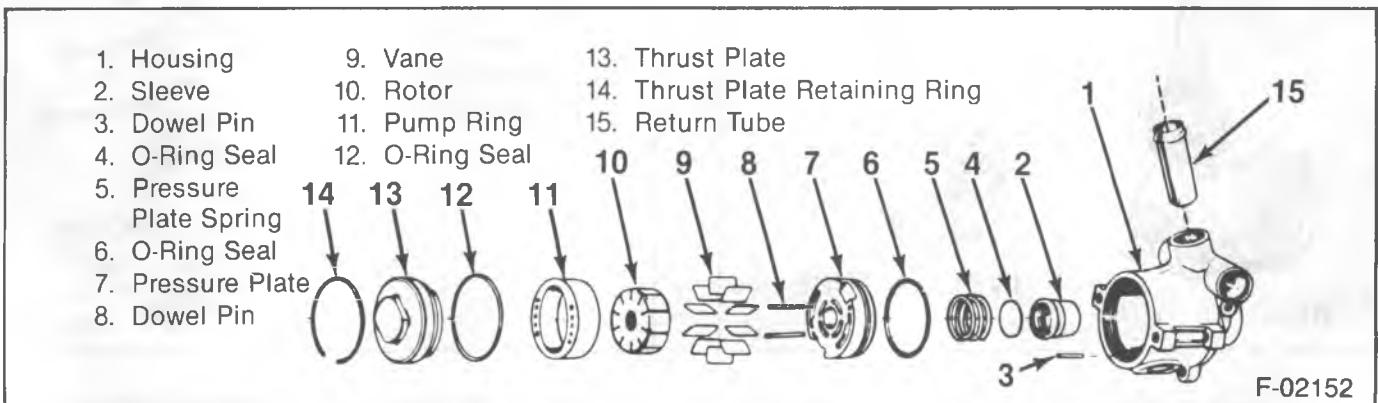

Figure 37—Pump Housing Components
14. O-ring seal (12).
15. Pump ring (11) (figure 37).
16. Rotor (10).